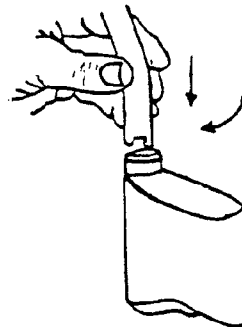

Fig. 4
6. Lock spray tube in by pushing down in opening, then rotate clockwise. Correctly installed, tube will face front of bowl (see Fig. 4 below).